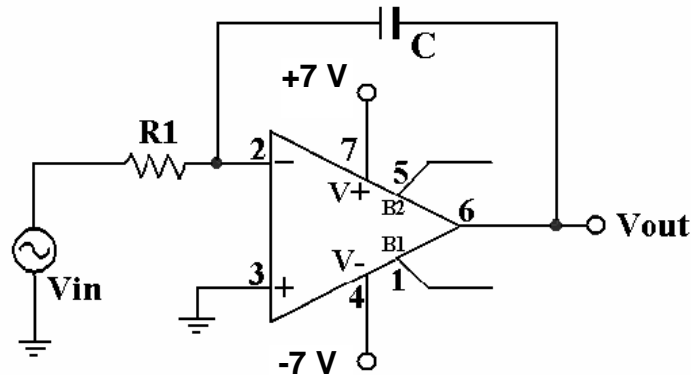

Fig 1. Inverting integrator circuit
*Integrator:* The circuit in Fig. 1 is the so-called lossless inverting integrator. As the name suggests, the circuit generates an output signal that corresponds to the integral of the input signal over time. The circuit can be analyzed using the standard Op-amp analysis techniques mentioned in class.